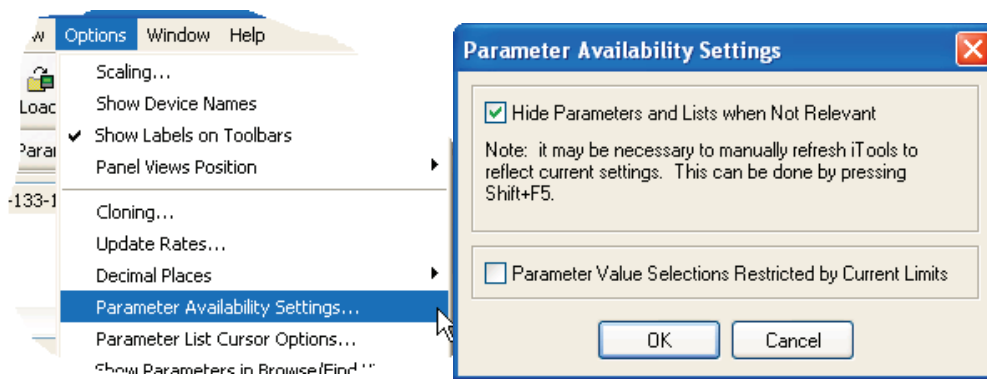

Figure 129 Show/Hide parameters
- Note:** 3. Hidden Parameters. By default, iTools hides parameters which are considered irrelevant in the current context. Such hidden parameters can be shown in the table using the ‘Parameter availability’ settings item of the options menu (Figure 129). Such items are displayed with a shaded background.